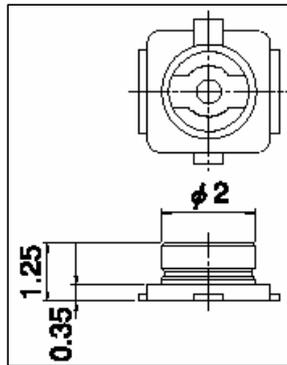
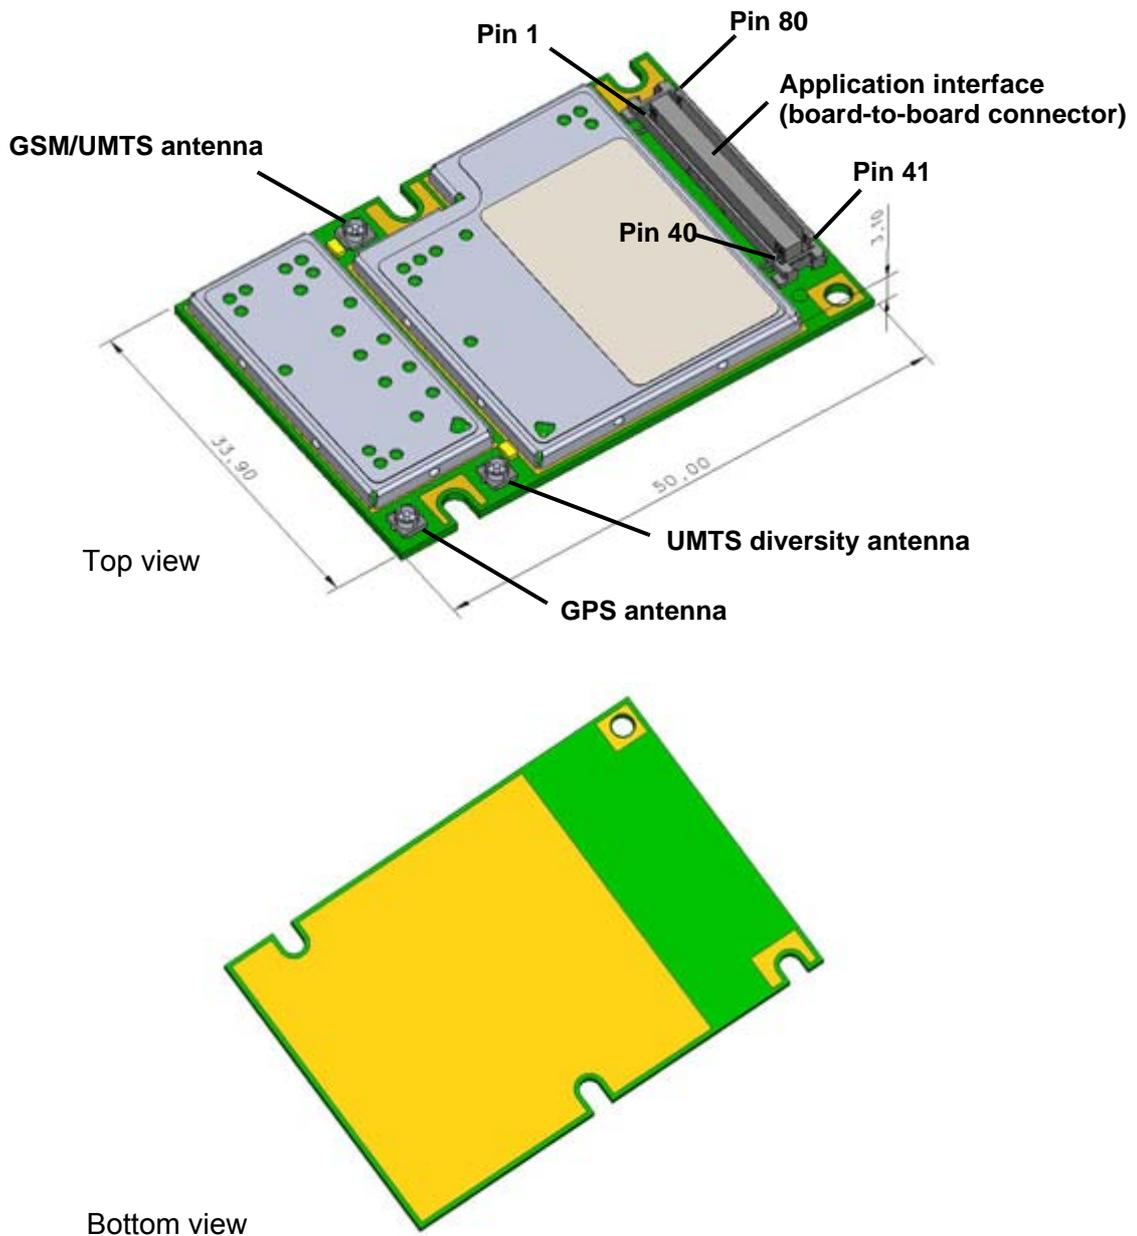
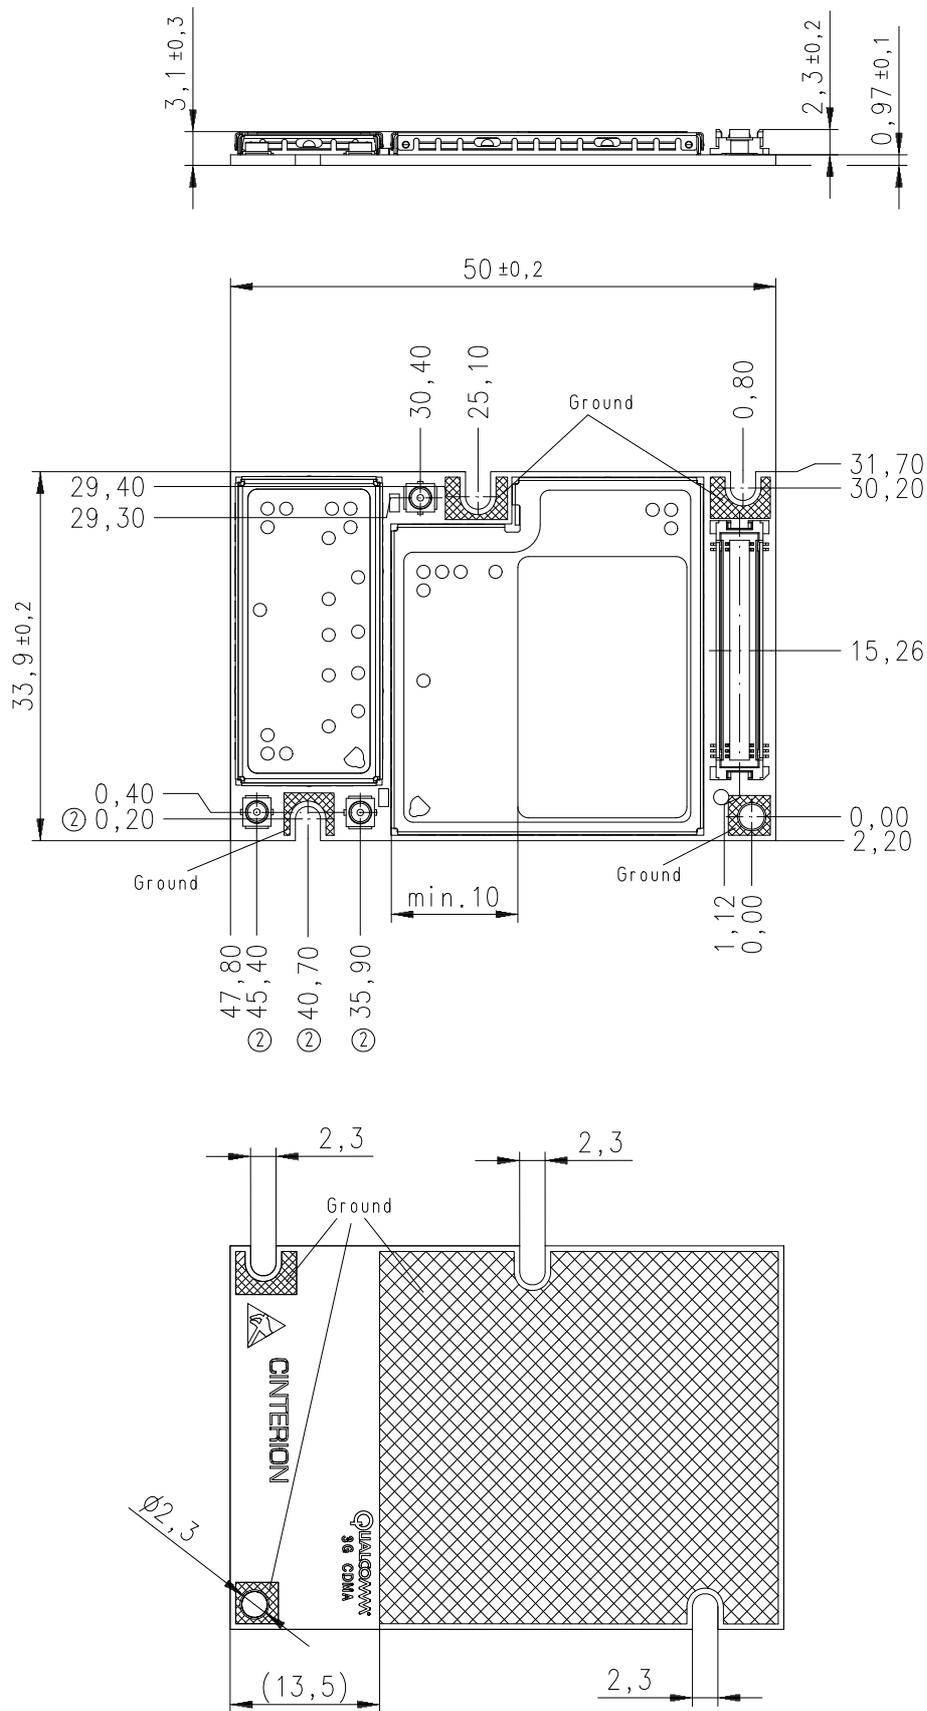

Figure 5: Mechanical dimensions of PH8/PH8-P antenna connectors
Figure 9: PH8/PH8-P – top and bottom view
Figure 10: Dimensions of PH8/PH8-P (all dimensions in mm)
The U.FL antenna connector from Hirose/Molex of the main GSM/UMTS antenna has been chosen as antenna reference point (ARP) for the Cinterion Wireless Modules reference equipment submitted to type approve PH8/PH8-P. See Section 5.1.2 for details. All RF data specified throughout this manual is related to the ARP. The positions of the module's antenna connectors can be seen in Figure 9.
PH8/PH8-P uses either an ultra-miniature SMT antenna connector from Hirose Ltd: U.FL-R-SMT, or the Molex 07341201 U.FL antenna connector. Both connectors have identical mechanical dimensions (see Figure 5). Minor differences in product specifications are mentioned in Table 11. The position of the antenna connectors on the PH8/PH8-P board can be seen in Figure 9.
Figure 9 shows the top view of PH8/PH8-P and provides an overview of the board's mechanical dimensions. For further details see Figure 10.
*Note: There is no inverse polarity protection for the board-to-board connector. It is therefore very important that the board-to-board connector is connected correctly to the host application, i.e., pin1 must be connected to pin1, pin2 to pin 2, etc. Pin locations are shown in Figure 9.*